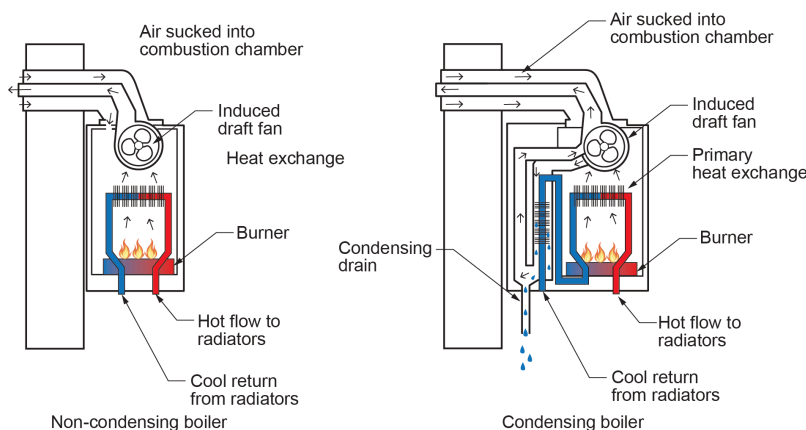

Figure 27 Boiler types. (Skilled Trades BC, 2021/adapted from Gas Boilers, 2019) Used with permission.
Boilers can be classified in many ways, such as by the fuel they use, heat output rating, construction material, heat exchanger geometry, and methods for exhausting combustion gases. However, from the standpoint of hydronic heating system design, it is important to distinguish between conventional “non-condensing” boilers and condensing boilers. Conventional boilers (Figure 27, left) are intended to operate so that the water vapour produced during combustion does not condense on a sustained basis within the boiler combustion chamber. Nearly all boilers with cast iron, carbon steel, or copper heat exchangers fall into this category.
Condensing boilers are constructed with more heat exchanger surfaces made of stainless steel or aluminum. These heat exchangers are capable of extracting more heat from the exhaust gases compared to the heat exchangers used in conventional boilers. When operated with suitably lower inlet water temperatures, these boilers can easily cool the exhaust stream below the dewpoint temperature of the water vapour, thus causing condensation to occur (Figure 27, right). The lower the entering water temperature, the greater condensing and efficiency it will achieve.
- **Figure 27** Boiler types was originally adapted from Gas Boiler Diagram: the Basics Everyone Should Know | Gas